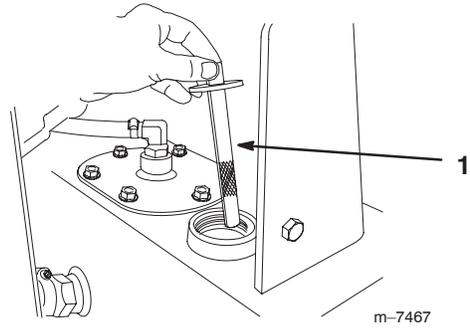

Figure 8
- 6. Check the fluid level on the dipstick (Fig. 8).